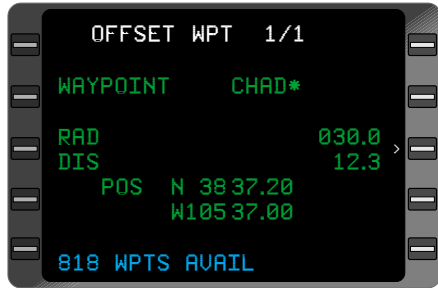

Figure 3-205
7. **POS** Coordinates- VERIFY for reasonability. (Figure 3-205)